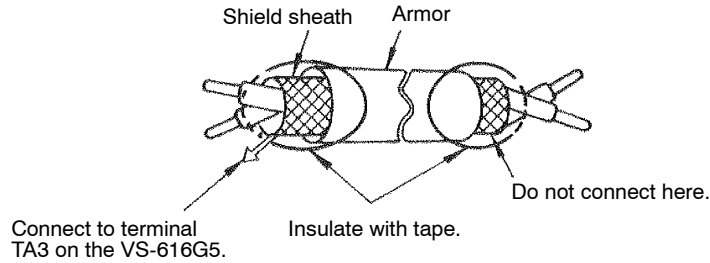

Fig 3.18 Processing the Ends of Twisted-pair Cables
2. Use twisted-pair or shielded twisted-pair cables to connect the PG to prevent operating faults. Process cable ends as shown in *Figure 3.18*. The maximum cable length is 100 m.